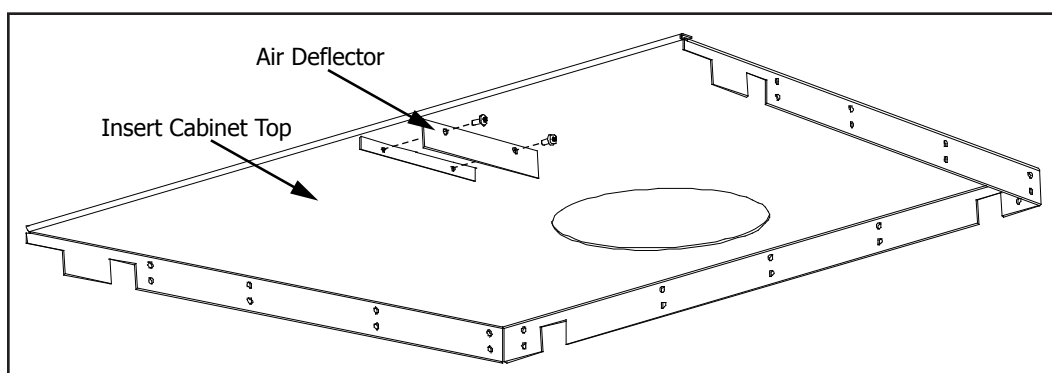

Figure 9: Removing Air Deflector on Cabinet Top.
3. Remove the Air Deflector (shown in Figure 9) by removing the two (2) T-20 screws.